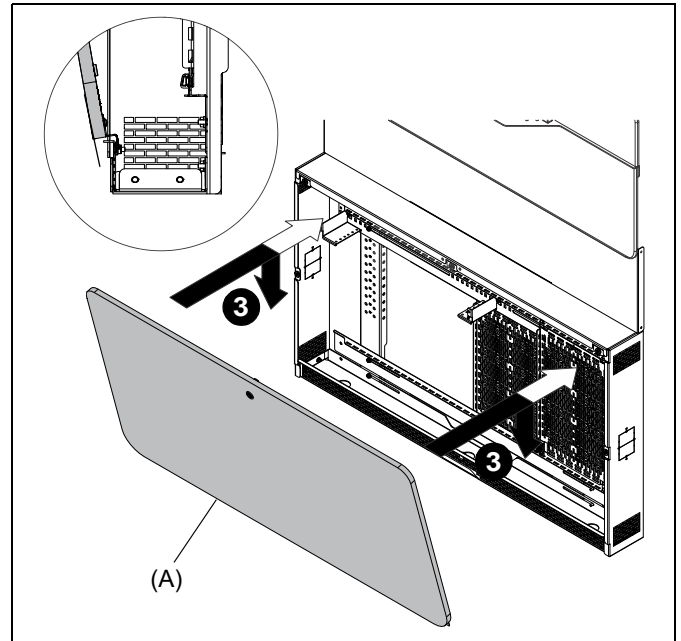

Figure 3
3. Tilt the bottom edge of the locking cover (A) and rest the bottom edge along the lower outside edge of the floor cabinet. (See Figure 3)